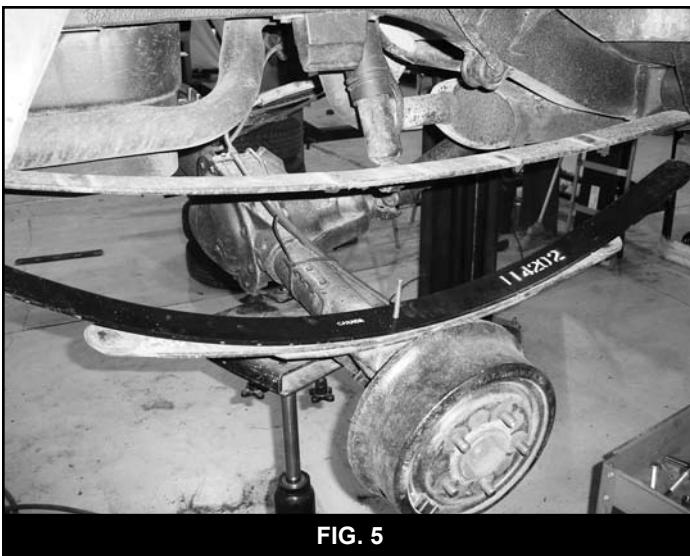

FIG. 5
9. Place the provided new leaf (114202R) in between the 2nd and 3rd leaf in the factory leaf pack. The leaf lengths get shorter as they go from the top leaf in a pyramid shape (Figure 5). Using the C-clamps on each side of the center pin hole, compress the leafs together while aligning the new center pin through all of leaf center pin holes (from the bottom up). With the pack completely compressed together with the clamps, fasten the center pin with the provided nut. Torque nut to 20 ft-lbs. Cut off any access center pin. Do not use the center pin to compress the pack together.